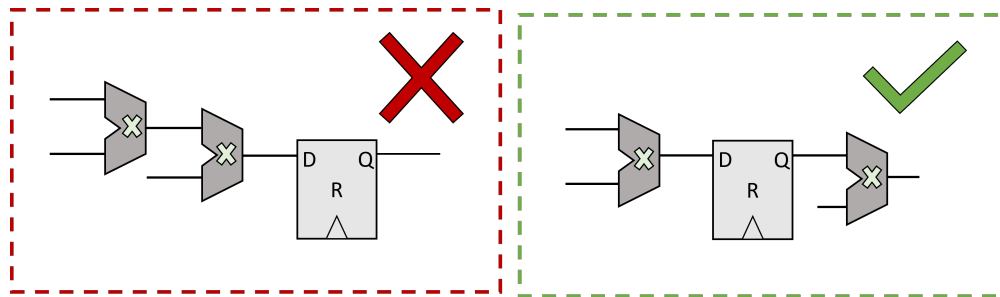

Figure 2.2: Example of legal and illegal dataflow.
- A multiplier output must be registered before being used as an input to another multiplier (see Figure 2.2).